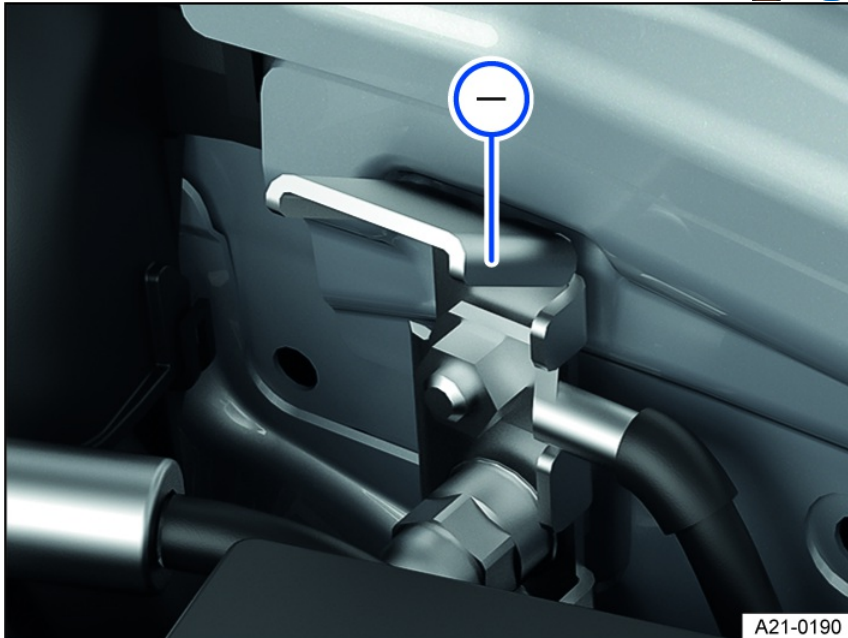

Fig. 146 In the engine compartment: Negative terminal jump-start point.
□ The jump-start point (negative terminal) is for connecting the black jumper cable fig. 146.